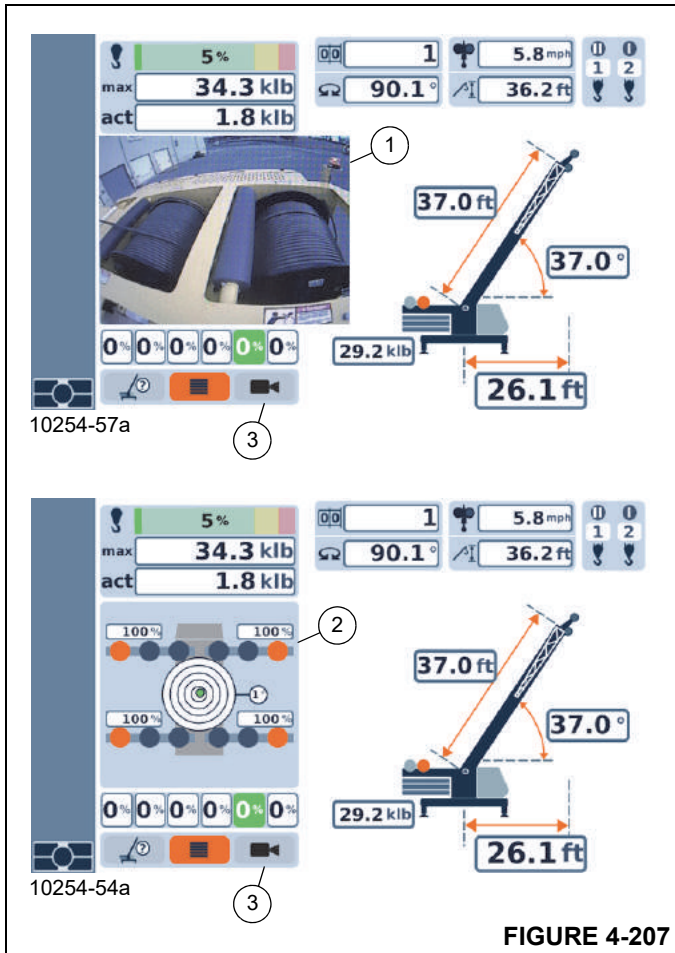

FIGURE 4-207
When enabled, the Hoist Camera View (1, Figure 4-207) will automatically show in place of the Outrigger Position View (2) when the main or optional auxiliary hoist is operating (reeling in or out). When the hoists are not operating, the Outrigger Position View will show on the Main Screen.
Select and confirm the Hoist Camera View Icon (3, Figure 4-207) to enable or disable the hoist camera view.